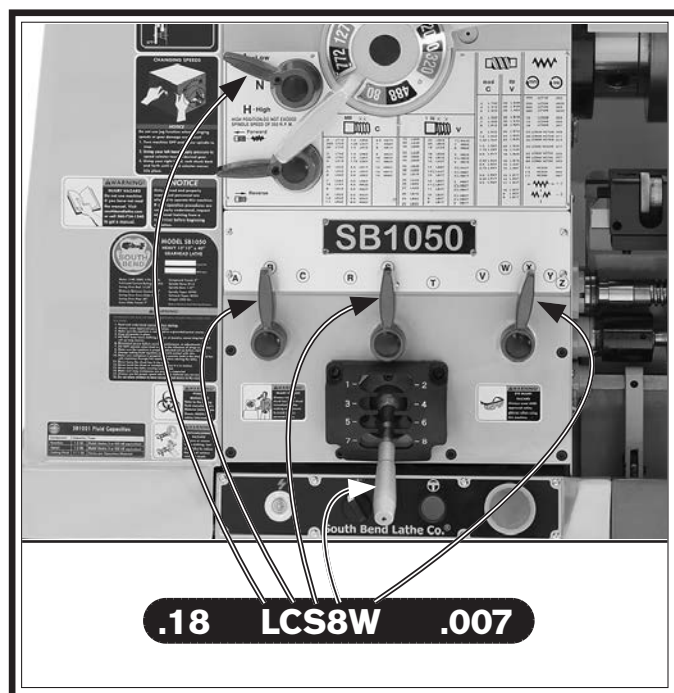

Figure 72. Power feed controls positioned for 0.18 mm/rev.
4. Position the controls as directed by the configuration string as follows (see **Figure 72**):